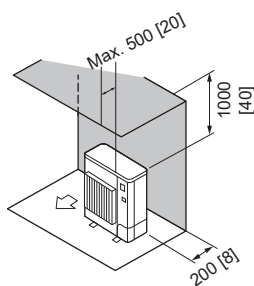

Fig. 2-7
- Obstacles at rear and above only (Fig. 2-7)